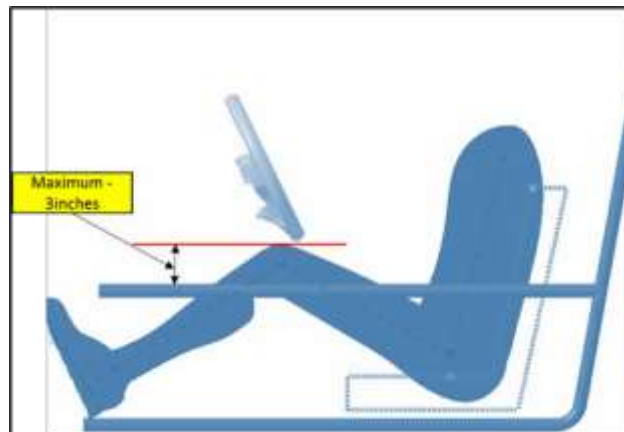
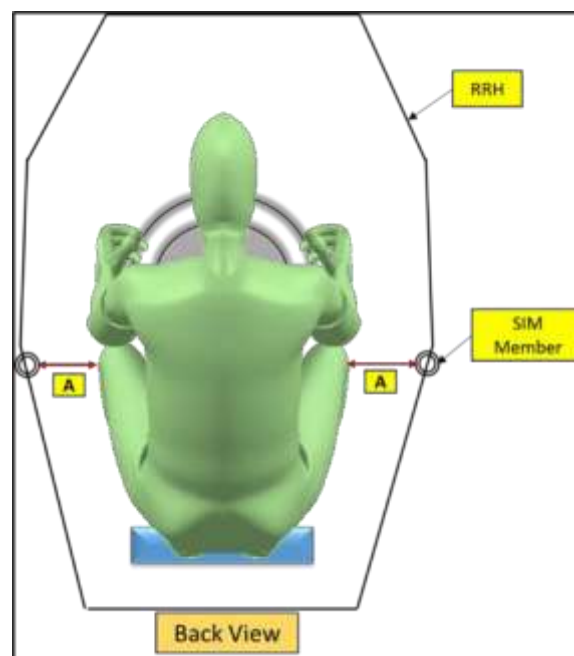

Figure B- 75: Driver Knee Safety Requirement
Figure B- 76: Driver Knee Safety Lateral Clearance
This requirement deals with the safety requirements to be followed to ensure the driver's knees are not coming out of the roll cage. The maximum height of the knees that can be allowed above the SIM member when viewed from the side is 76mm (3in) as shown in Figure B-75. The check will be done when the driver's foot is kept on the pedals, hands on the steering wheel, and with the comfortable pedal operating position.
In line with the above rule, teams are required to meet the lateral clearance requirement of the knees. This is also measured when the driver's feet are on the pedals and hands on the steering wheel. The dimension "A" mentioned in figure B-76 should be a minimum of 76mm (3 in.) w.r.t SIM member inner surface.
**Teams must ensure that their vehicle meets both the clearances mentioned under B14.3(as per Figure B-75 and Figure B-76), both the limits should be met simultaneously. Teams that do not meet these criteria will be marked as 'not cleared at safety scrutiny'.**